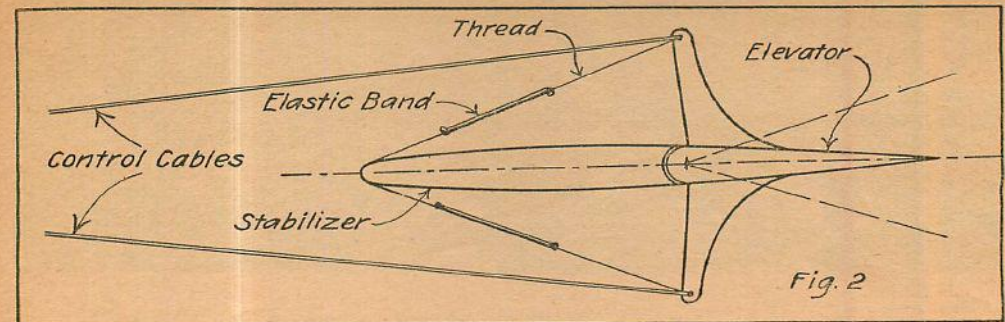

Fig. 2
These control surfaces are held in normal position with thin threads and elastic bands, as indicated in Figure 2. The elastic bands should be fresh and of the same size throughout.
If the a end of aluminum arm (14) is long, the rudder will be held to one side longer; if the arm is shorter, the turn will also be shorter. As the arm (12) on nut (9) passes beyond reach of the aluminum arm (14), the pull on the thread (16) ceases and the elastic bands shown on Figure 2 automatically pull the rudder back to its normal position.